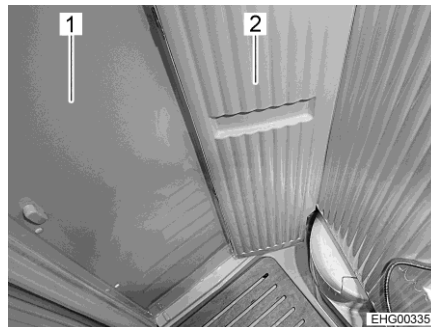
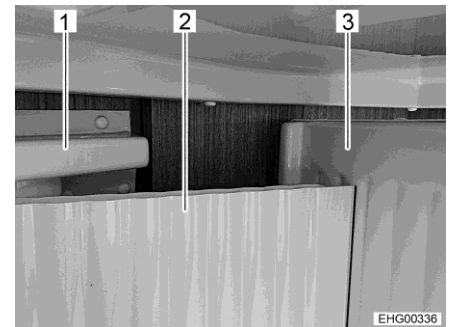

Fig. 145 Small swivel wall, swivelled
Fig. 146 Correct position of the small swivel wall
- Close the bathroom unit door (Fig. 145,1 and Fig. 146,1).
- ▷ **Always** position the small swivel wall (Fig. 145,2 and Fig. 146,2) **in front of** the large swivel wall (Fig. 146,3). Do **not** press the small swivel wall to the position **behind** the large swivel wall. Otherwise, there is the risk to be trapped in the bathroom unit because it is no longer possible to open the bathroom unit door.
- Swivel small swivel wall (Fig. 145,2 and Fig. 146,2). The small swivel wall is in its correct position if it is positioned in front of the large swivel wall (Fig. 146,3).